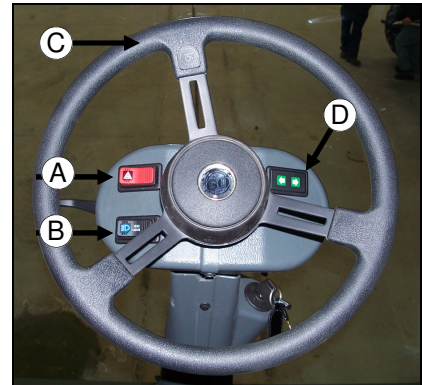
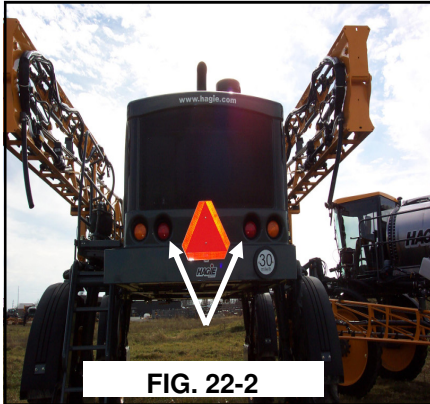

FIG. 21-1
FIG. 21-6
**HAZARD/ WARNING LIGHTS**—To activate the flashing hazard/ warning lights (fig. 21-5 and fig. 21-6) depress the “FLASHER” switch (fig. 21-1, item A). Activate the hazard/ warning lights anytime, day or night, that you are traveling on a public road unless prohibited by law.